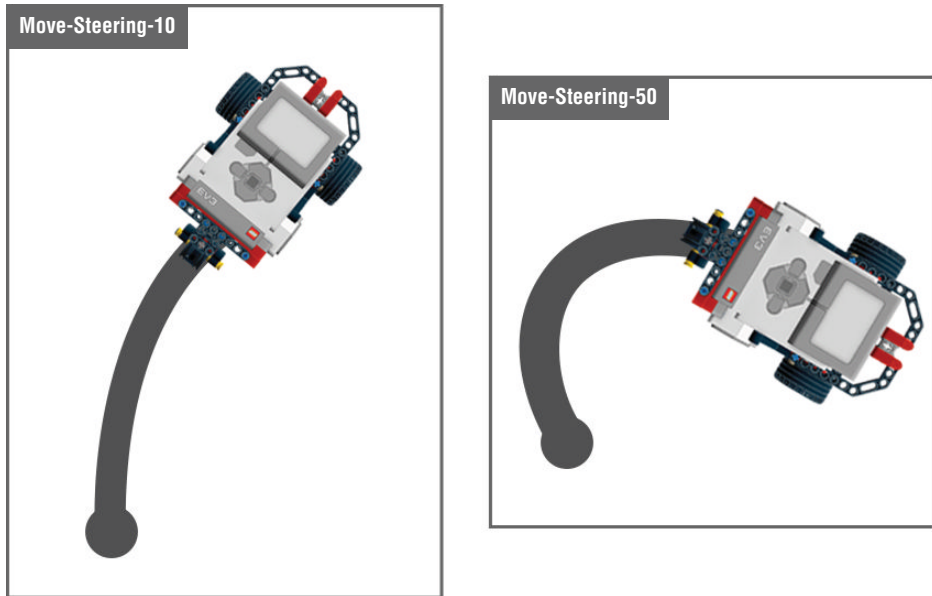

Figure 4-31: The outcomes of the programs Move-Steering-10 and Move-Steering-50
4. Download both programs to the Auto-Driver and check the results. Did you get movements from each program that looked like the image in Figure 4-31? As discussed before, the program with the lower steering values made a smooth, wide arc, and the one with the higher steering value made a quick, tight arc.